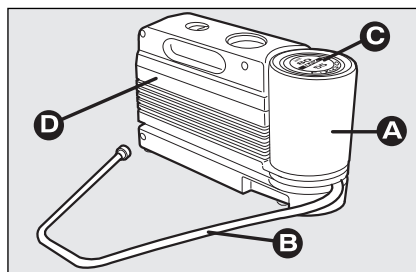

fig. 1
The kit **fig. 1** includes:
- ☐ compressor **D-fig. 1** including gauge and connections;